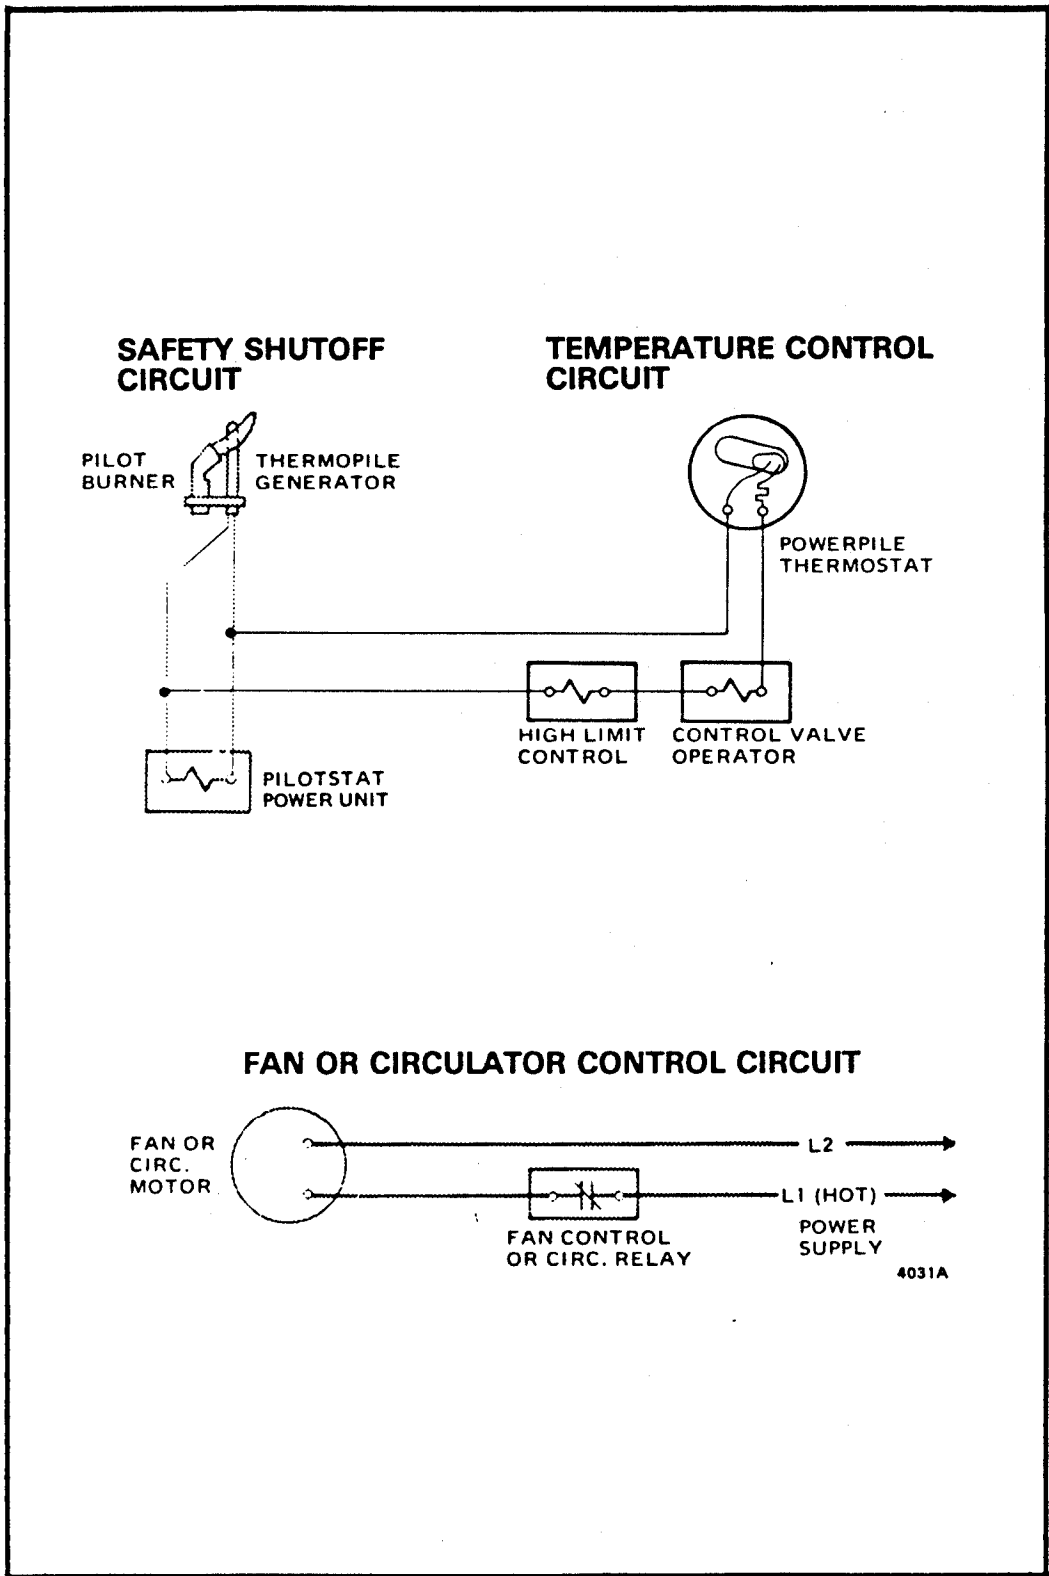

Fig. 68—Typical Powerpile temperature control circuit.
2. If the main burner does not light, temporarily jumper the thermostat and high limit control (Fig. 68).